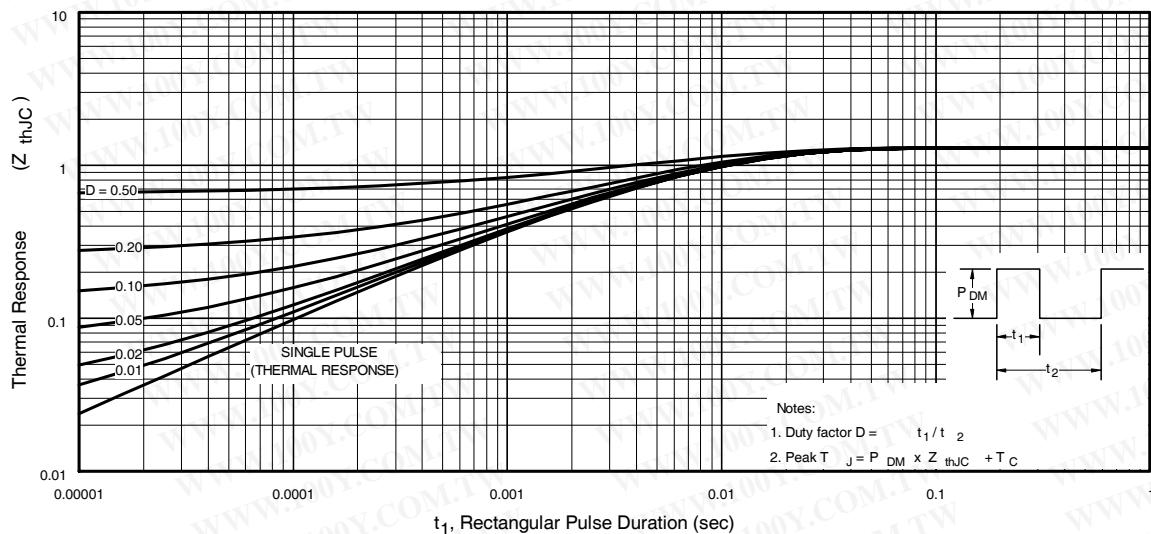

Fig 11. Maximum Effective Transient Thermal Impedance, Junction-to-Case
- $Z_{\text{thJC}}(D, t_{\text{av}})$ = Transient thermal resistance, see figure 11